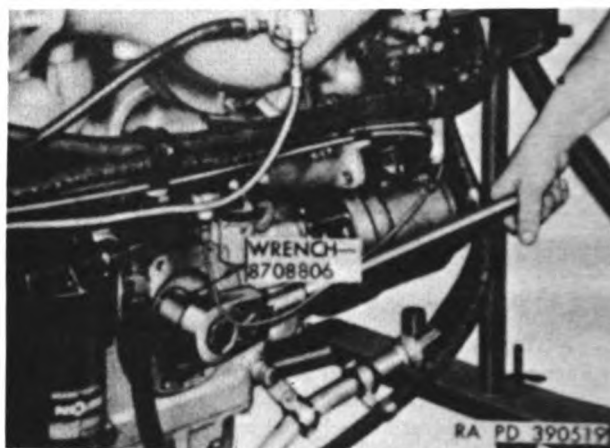
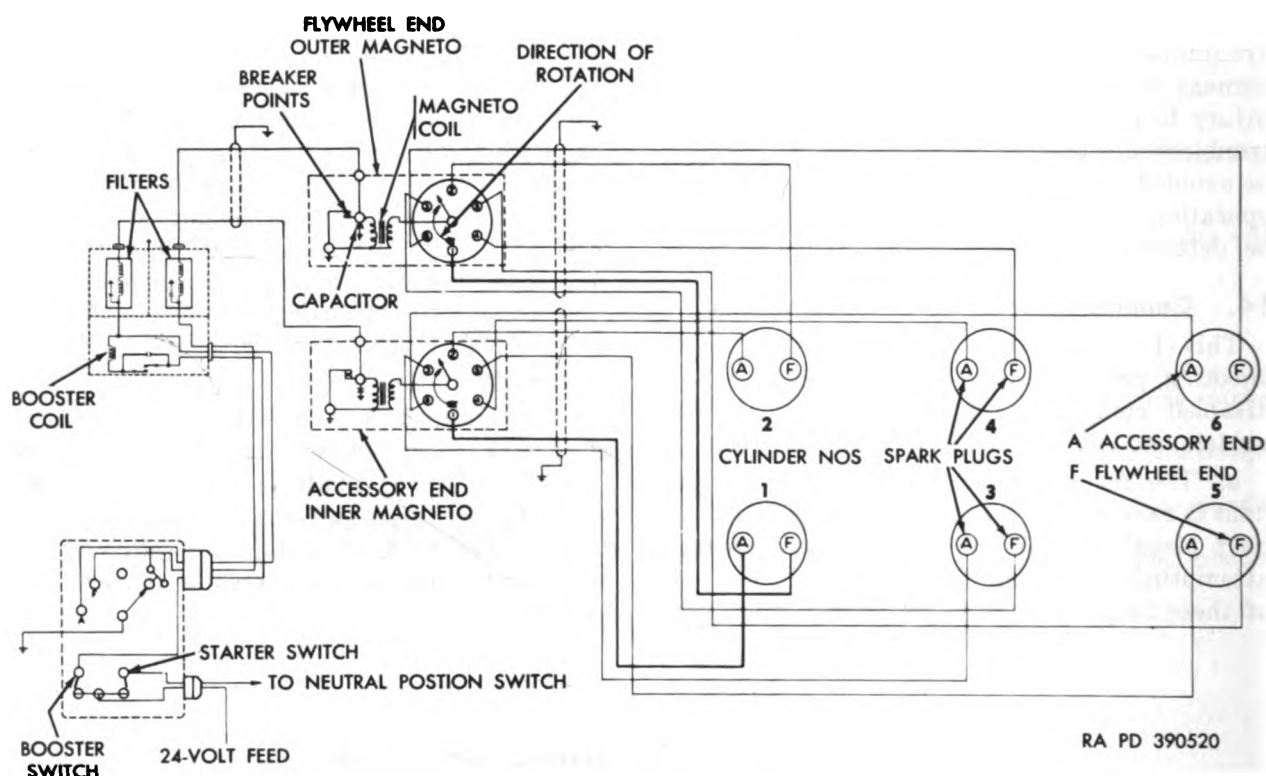

Figure 15. Turning engine through power take-off drive shaft.
Figure 16. Ignition wiring—schematic diagram.
- (1) Ordnance maintenance personnel should make a preliminary examination of the defective components before troubleshooting the materiel.
- (2) During troubleshooting, as outlined in table IV, it will be necessary to turn the engine by hand. To turn engine by hand, remove power-take-off cover (par. 120d) and install wrench 8708806 (S, fig. 10) on power-take-off drive shaft as shown in figure 15.
- (3) After turning engine, remove wrench and install power-take-off drive cover (par. 261).
- (4) In the troubleshooting table (table IV), reference is also made to ignition wiring as shown in figure 16.